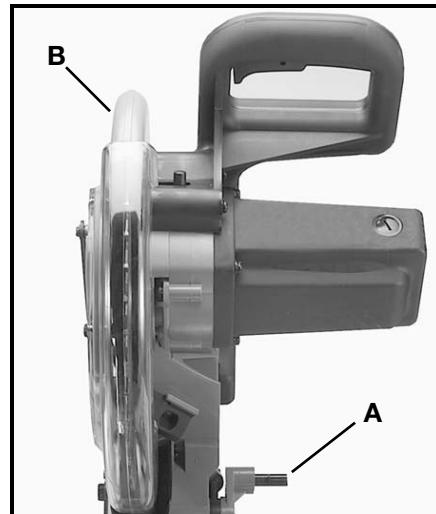

Fig. 5
- 2. Fig. 5, illustrates the lockpin (A) pulled out and the cuttinghead (B) in the up position.